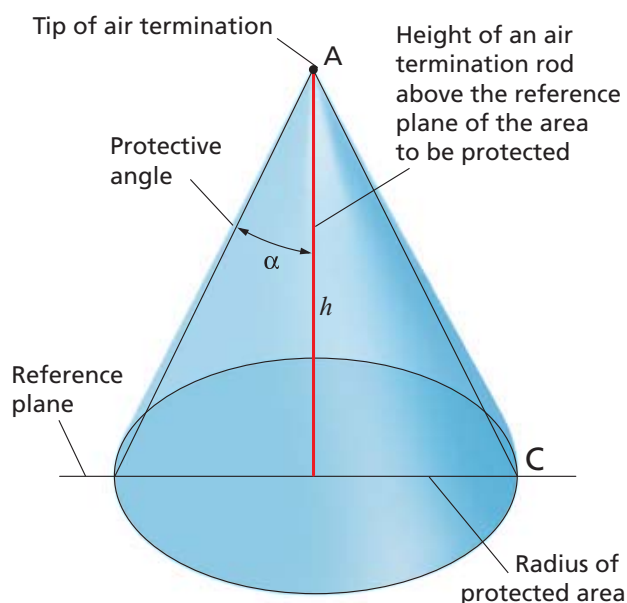

Figure 8: The protective angle method for a single air rod
The protective angle (α) is the angle created between the tip (A) of the vertical rod and a line projected down to the surface on which the rod sits (see Figure 8).